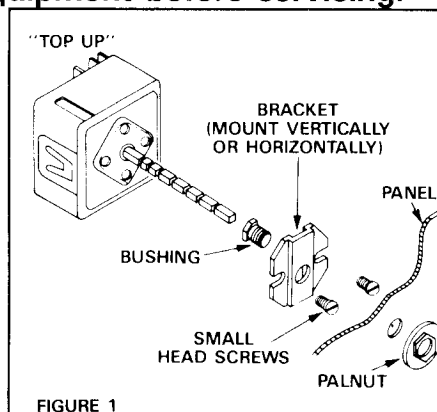
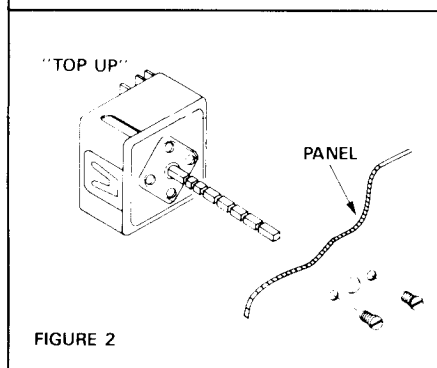
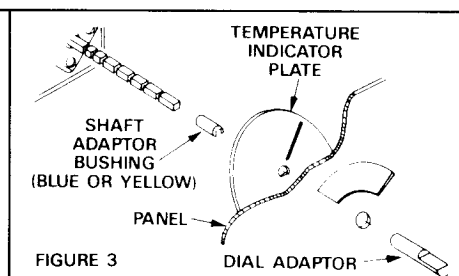

FIGURE 1
FIGURE 2
FIGURE 3
1. Determine mounting type, palnut (figure 1) or screw (figure 2), and mount control accordingly. If temperature indicator plate is used refer to figure 3 (standard models only). **NOTE:** Word "TOP" on rear of control must be installed UP for proper calibration.